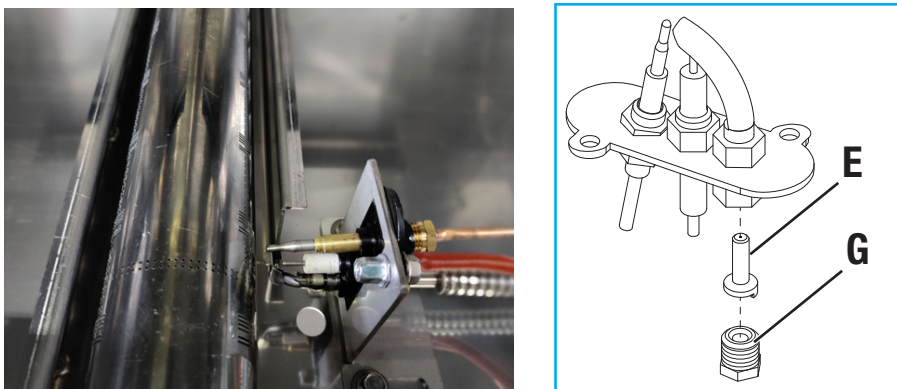

Fig.11.
5. Unscrew the nut "G" (Fig.11)
6. Remove the nozzle "E" (Fig.11) and replace it with the one for the type of gas chosen
7. Re-install the nut "G" (Fig.11)
Unscrew the nozzle "U" (Fig.11) and install the one for the type of gas, checking the "A" distance for air.